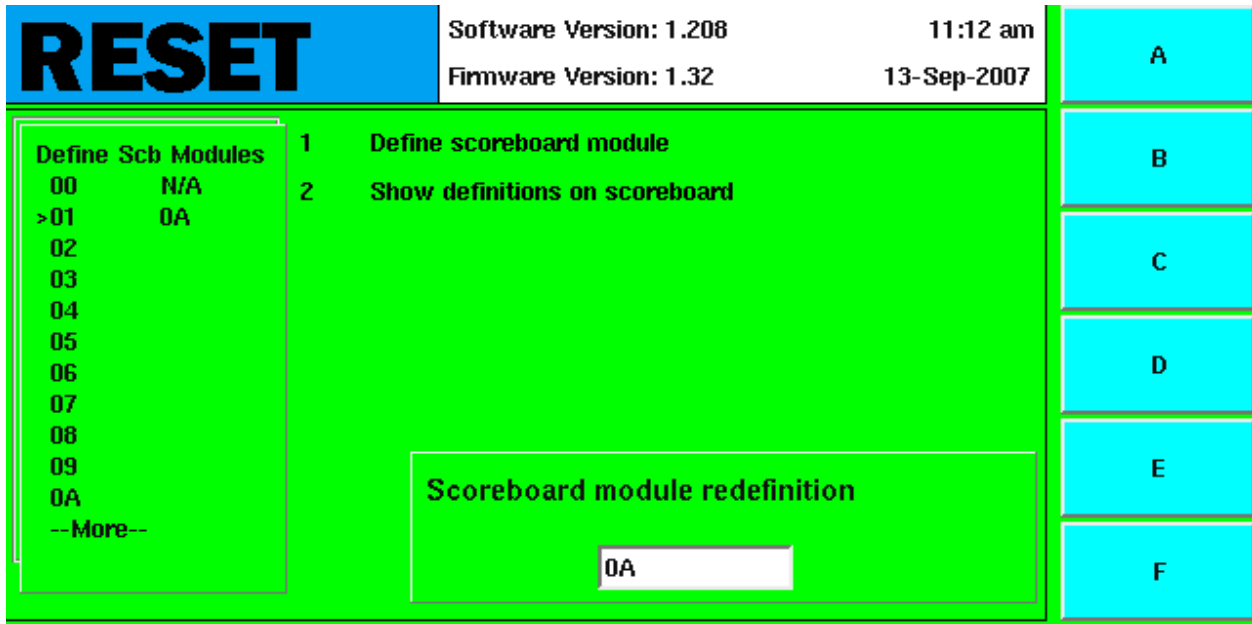

Figure 4-H Scoreboard Module Definition Window
**Operation:** Press **2** to display or change scoreboard module definitions, press the **Up** or **Down** softkey until the arrow points at the desired physical address as shown in Figure 4-H, then press **1** and type the two-digit logical address in the prompt box with the numeric keypad (and with the softkey menu if a letter is required, as in 0A). Press **2** to display module definitions on the scoreboard. Press **2** again to clear definitions on the scoreboard.